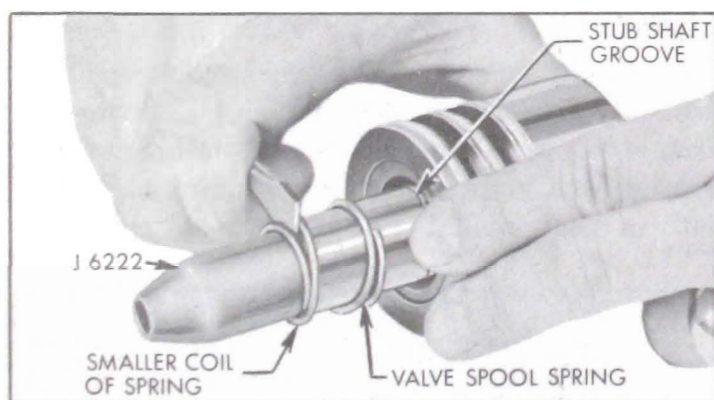

Figure 8-40—Installing Valve Spool Spring
5. Place seal protector J-6222 over stub shaft and slide valve spool spring over stub shaft with smaller diameter coil going over end of shaft last. See Figure 8-40. Work spring on shaft with a small screw driver until small coil of spring is seated in the stub shaft groove. Be careful not to damage surface of shaft.